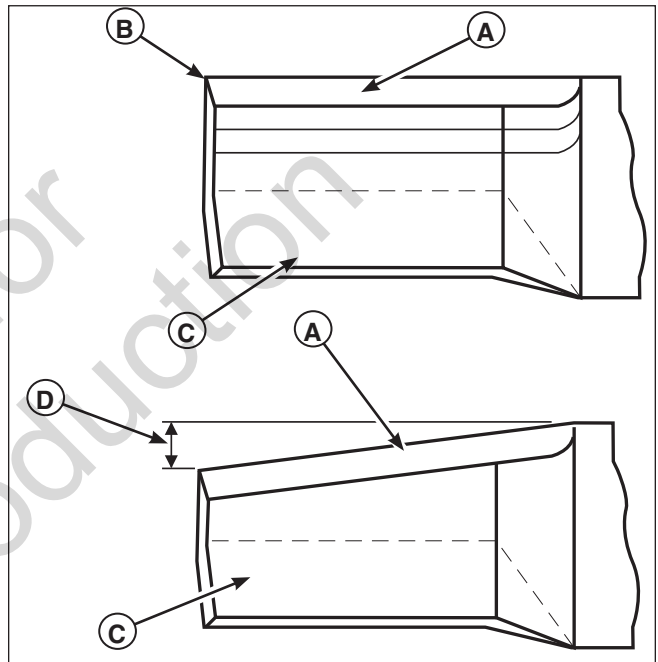

Figure 19. inspecting the Mower Blade Tips
2. Inspect the mower blade (Figures 19 & 20). **Discard the mower blade if it has any of the below conditions.**